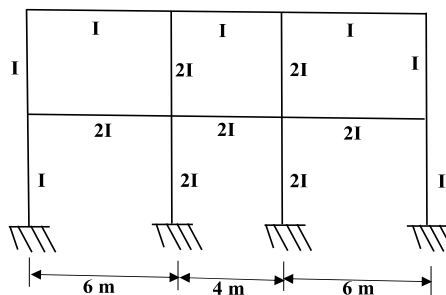

Figure. 2
- 2 a) Find the maximum hogging moment and shear force at the support due to gravity loading in the frame shown in Figure.2. Frames are spaced at 3.0 m c/c. Dead load = 3 kN/m², Live load = 2 kN/m², Weight of beam = 2 kN/m and storey height = 3 m. 10